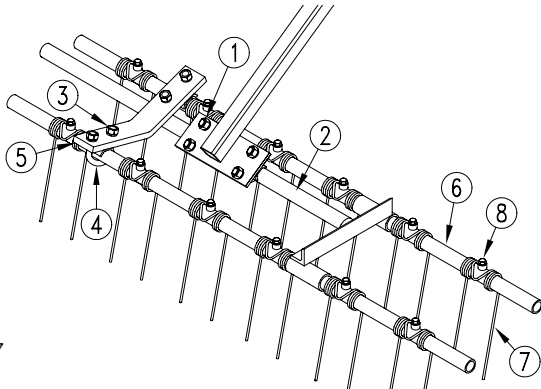

Figure 2
To adjust frame tube, refer to Figure 2. Loosen four hex nuts (1) on u-bolts and rotate frame tube (2).